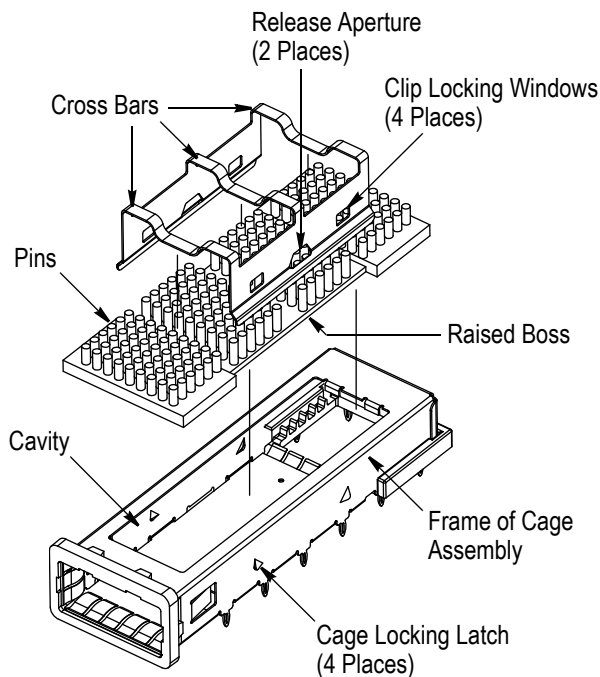

Figure 6
8. If applicable, secure the heat sink to the cage assembly as follows (refer to Figure 6):
1. Insert the tip of a tool (such as a small screwdriver) into either release aperture of the clip, and rotate the tool until the corresponding locking windows are released from the cage locking latches of the cage assembly. Repeat this step for the remaining release aperture. Refer to Figure 6.